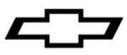

Figure 2: Rear Compartment Lid Latch Cover Replacement
2. Remove Rear Compartment Lid Latch Cover (Figure 2).
- a. Use a small flat-bladed tool to pull and release the rear compartment latch cover. (Figure 2 callout 1).
9. Rear Compartment Lid Latch Cover (Figure 2).